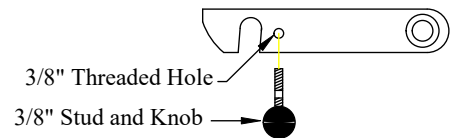

Figure 11: Original Series platform latch knob.
- 1. Install** the two (2) knobs on the platform latches (Figure 11).
- 2. Install** the two (2) square plastic insert nuts for the license plate into the square holes on the liftgate.
- 3. Install** the license plate using the two (2) stainless steel screws provided.